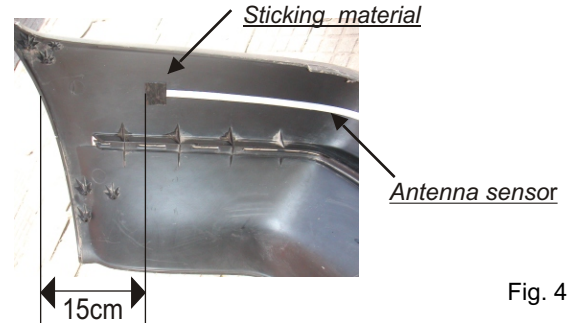

Fig. 4
- NOTE: 1) It is advisable to start and finish the application of the antenna sensor tape et about 15 cm from the both ends of the bumper (Fig. 4).**